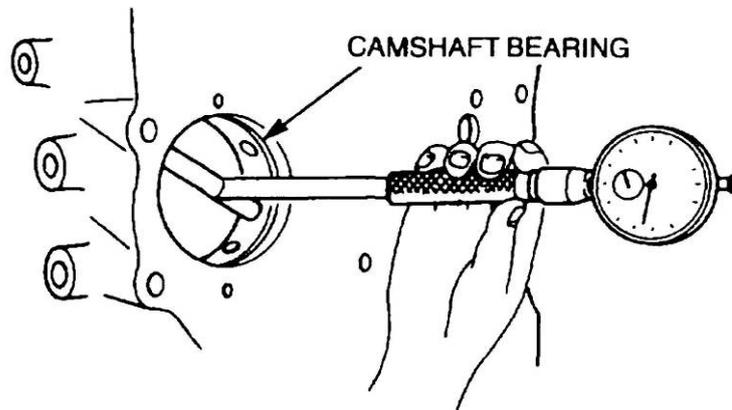

Figure 23 Measuring the Camshaft Bearings
- g. Using an internal micrometer, measure the internal diameter of the camshaft bearings (Figure 23). The standard diameter is 56.00 to 56.03 mm (2.2047 to 2.2059 in). If the camshaft is serviceable, subtract the camshaft bearing journal dimensions from the internal dimensions of the camshaft bearings. The standard clearance dimension is 0.03 to 0.15 mm (0.0012 to 0.0059 in). If the clearance exceeds the limit, replace the camshaft bearings. Refer to Para 22. for the camshaft bearing removal procedure.